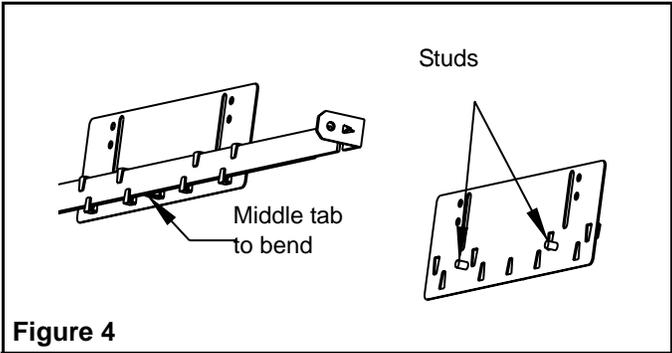
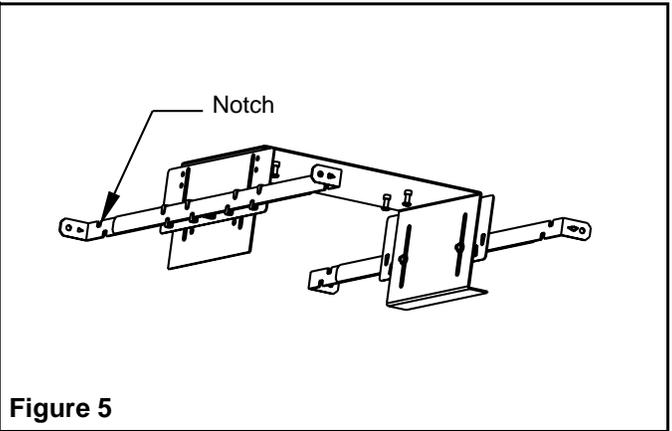

Figure 4
Figure 5
3. Slide hanger bars through the tabs in the adjustment brackets. If needed, bend the middle tab of the adjustment brackets over the hanger bars (see Figure 4). Align the “U” bracket as required and fix location by cutting a hole in the ceiling panel of the size of the “U” bracket (8-1/4 inch by 5-3/4 inch).
4. Rest the assembly on top of grid members. The notch on bars should hook over grid member (see Figure 5). Place the “U” bracket with its flange sit on the panel and tighten the nuts on the studs of the side brackets (see Figure 4). If required by code, hang the whole assembly from the framing above ceiling grid with solid wires, (provided by others).